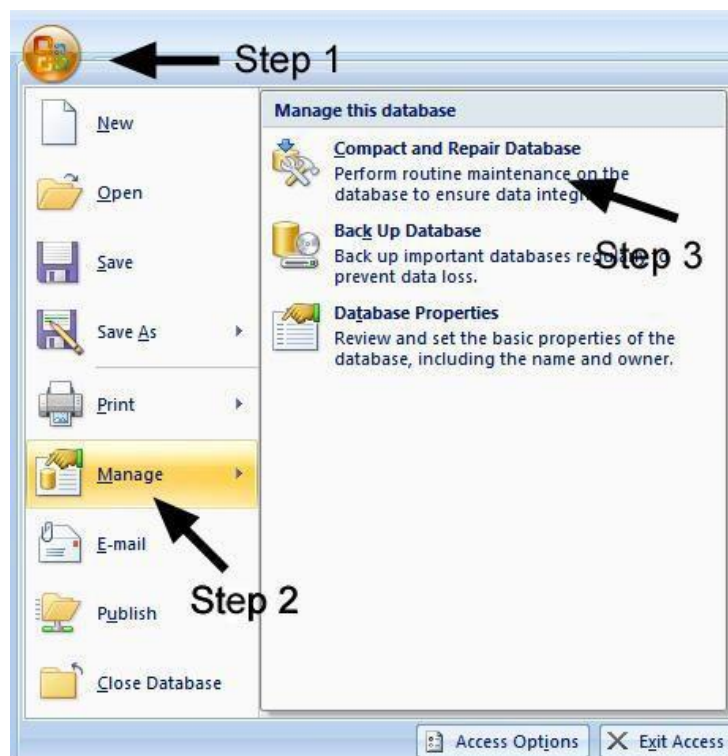

Figure 74 - Access 2007 Compacting of ERT
1. Click the Microsoft Access icon on the upper left of the ERT Access program. This will open the Microsoft administration tools window, as seen in Figure 74.